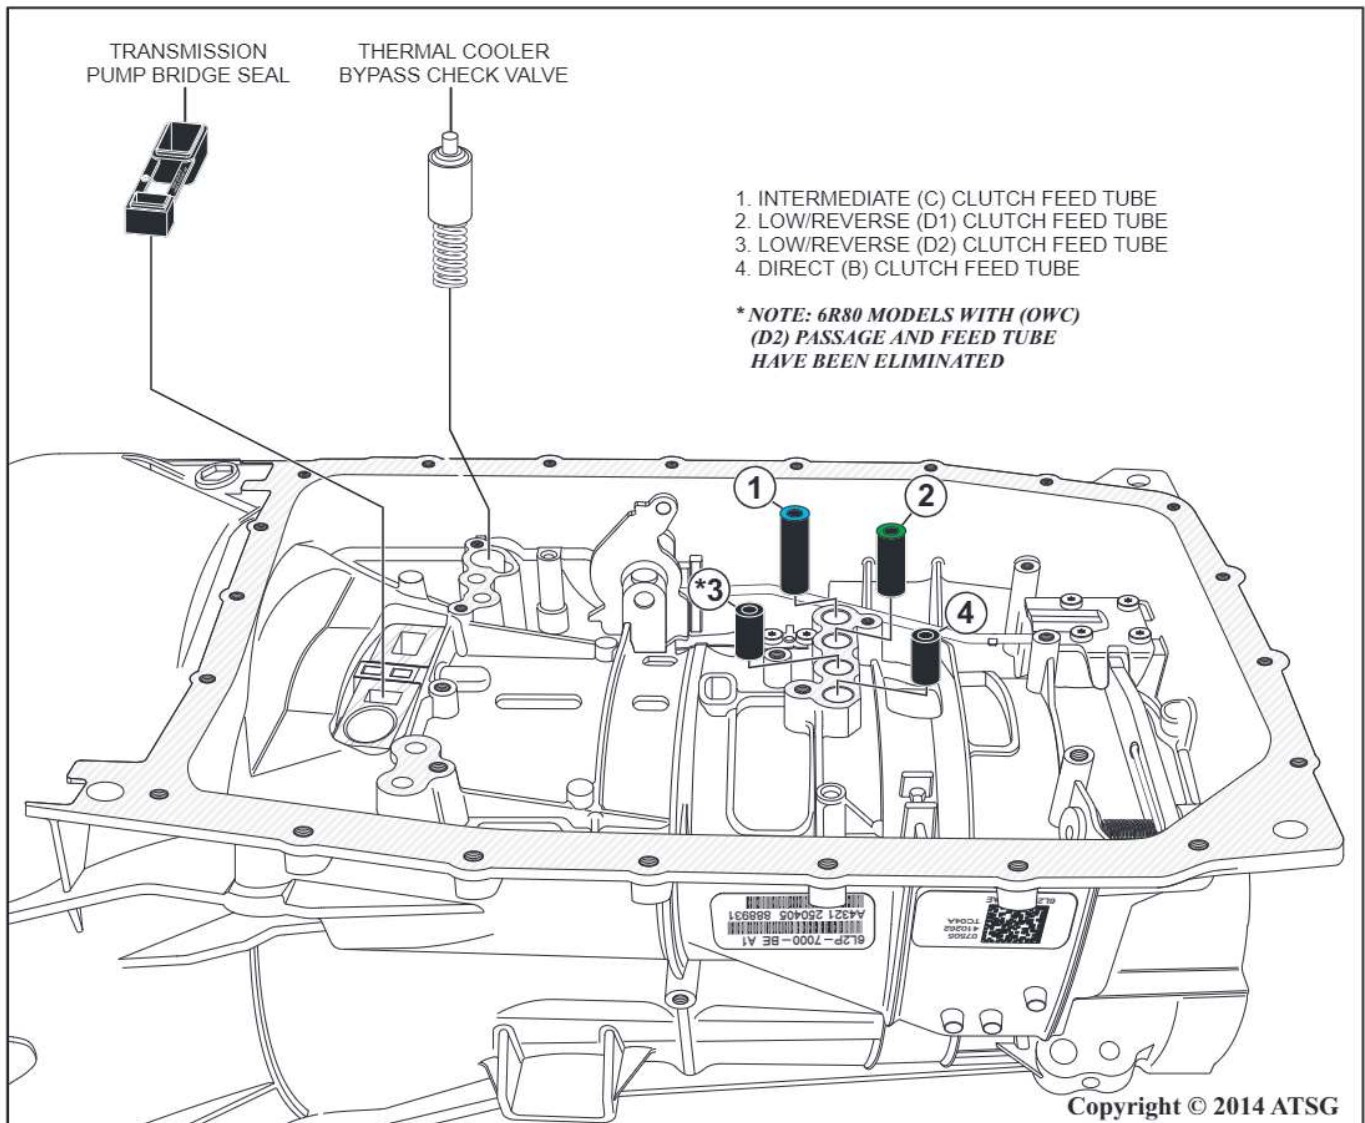

Figure 153
55. Install new clutch feed tubes into the case as shown in Figure 153.
61. Install the thermal cooler bypass check valve into the case as shown in Figure 153.
62. Prime oil pump and install a new transmission pump bridge seal into the pump assembly as shown in Figure 153.